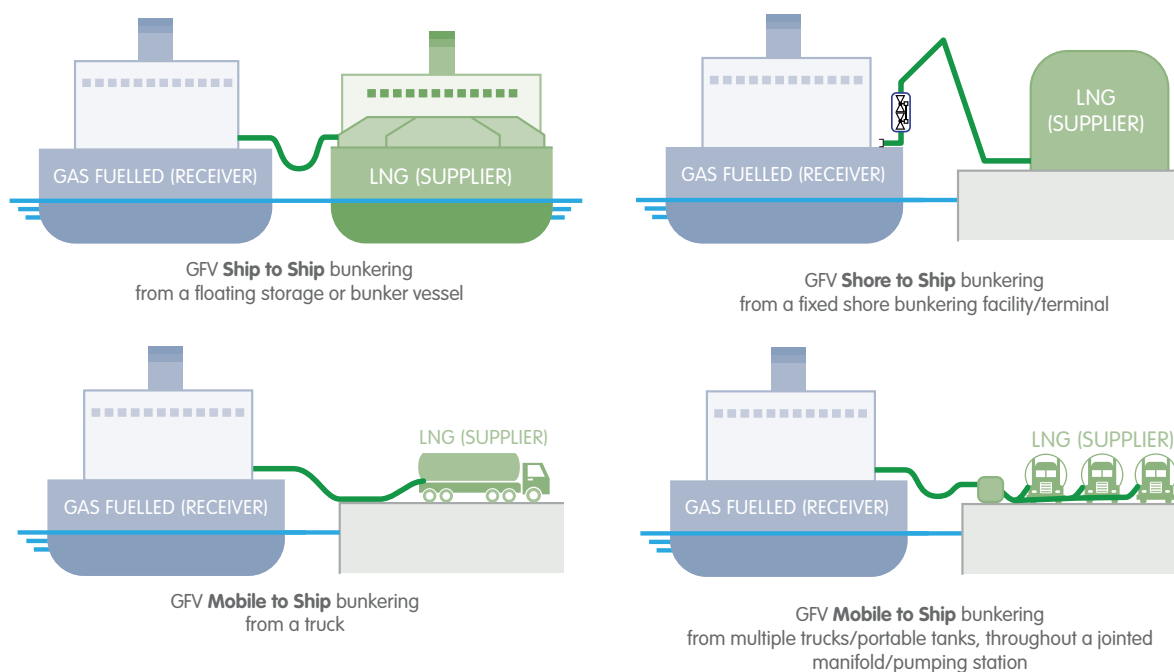

Figure 1: Typical bunkering supply scenarios
**Bunkering Facility/Supplier** – The bunkering facility – also referred as the “supplier” – is any technology or system designed to be used to transfer/bunker liquefied gas as fuel to a gas-fuelled vessel. It may consist of a floating, shore-based, fixed or mobile fuel-supply facility, such as a bunker vessel, road tanker or terminal (see Figure 1).
**Mobile-to-Ship** – An LNG bunkering operation to a gas-fuelled vessel from a mobile bunkering facility located onshore. Mobile bunkering facilities can consist of a truck, rail car or other mobile device (including portable tanks) used to bunker LNG. (see Figure 1)
**Shore-to-Ship** – An LNG bunkering operation to a gas-fuelled vessel from a fixed bunkering facility or terminal (see Figure 1).
**Ship-to-Ship** – An LNG bunkering operation to a gas-fuelled vessel from a floating storage or bunker vessel (see Figure 1).